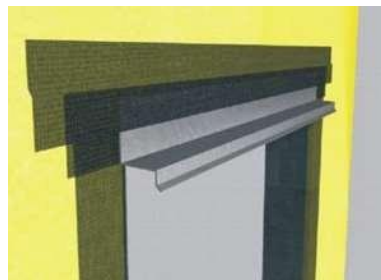

Fig. 7
- e. Cut AquaFlash Mesh to proper length [flashing plus 4 in (102 mm) extending 2 in (51 mm) beyond each end of flashing] - Figure 7.